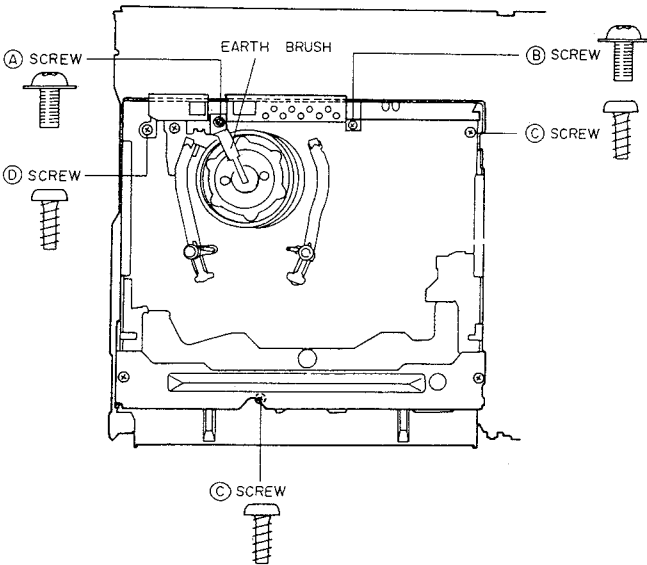

Fig. 3-24
- 2) Remove the (A) screw which fix the EARTH BRUSH and remove the EARTH BRUSH.
- 3) Remove the (B) and (C) screw which fix the PRE AMP PCB then pull up the PRE AMP PCB as shown in Fig. 3-24.
- 3) Remove the two (C) screws from the MECHA. FRAME as shown in Fig. 3-24.